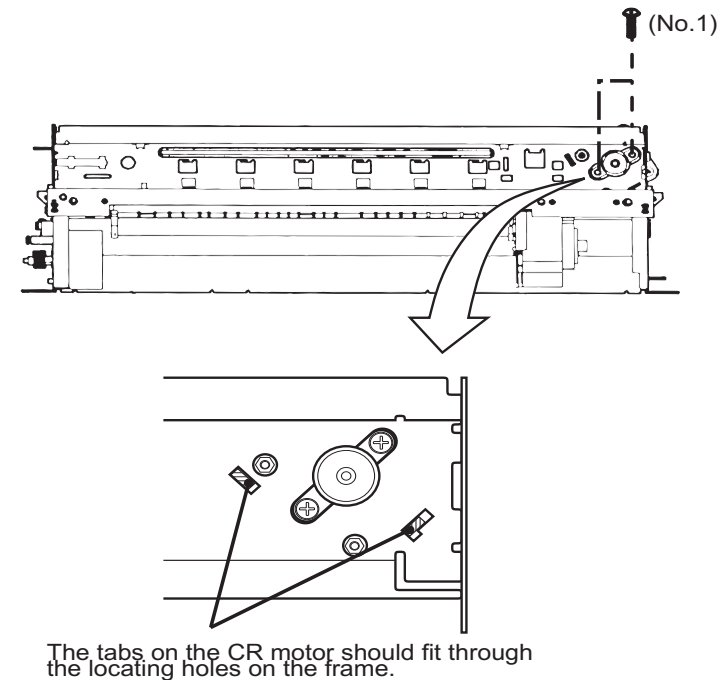

Figure 4-12. Positioning the CR Motor Assembly
- When installing the CR motor assembly, make sure that the two tabs on the motor bracket fit into the locating holes (slots) in the frame. (See Figure 4-12.)